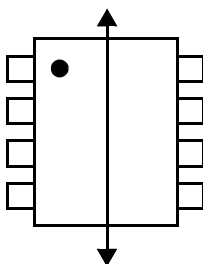

Figure 27. Cross-Axis Field Direction
9. External magnetic field immunity is improved by this factor if the field direction is "end-to-end" rather than to "pin-to-pin" (see Figure 27).
Immunity to external magnetic fields is even higher if the field direction is “end-to-end” rather than to “pin-to-pin” as shown in Figure 27.